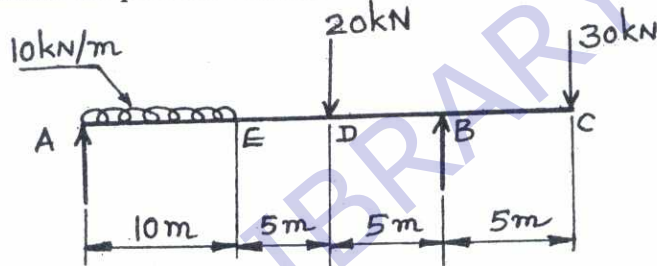

Fig.Q5(b)
- b. A beam 25m long is supported at A and B and is loaded as shown in Fig.Q5(b). Draw the shear force and bending moment diagrams for the beam computing shear force and bending moments at A, E, D, B and C. Find the position and magnitude of the maximum bending moment. Also, determine the point of contraflexure. (14 Marks)